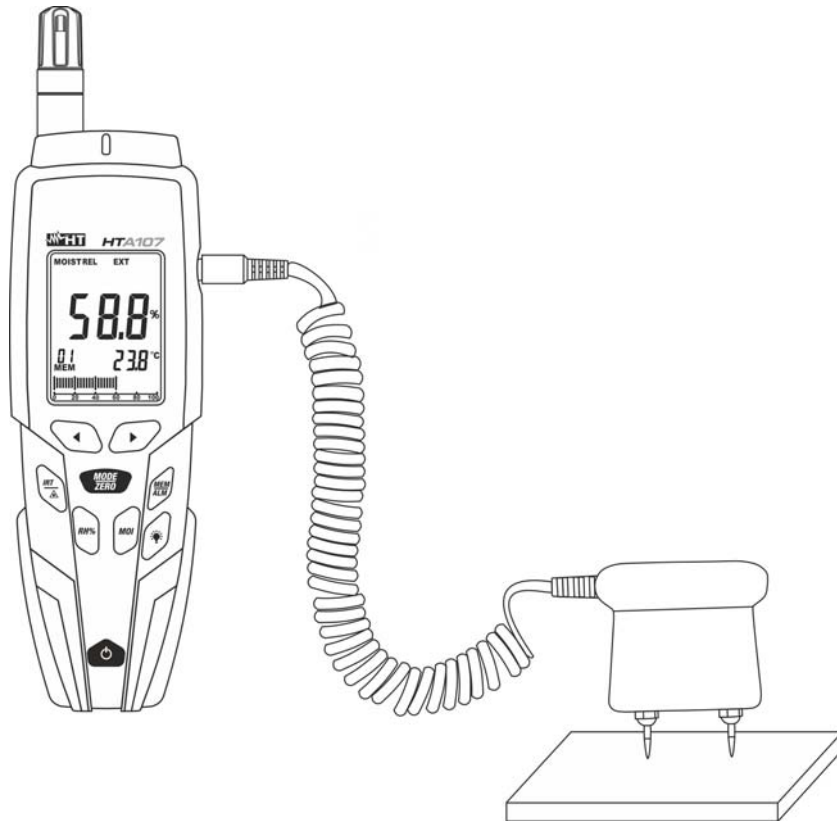

Fig. 9: Use for measuring moisture with contact by means of the external probe.
5. Rest the probe's terminals on the surface of the item to be measured (see Fig. 9).. The value of relative humidity is shown on the main display. The value of air temperature is shown on the secondary display.